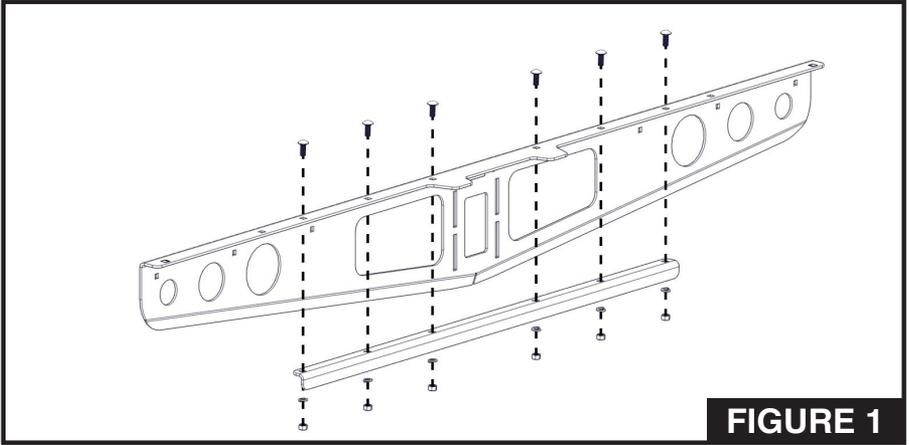

FIGURE 1
Insert (6) 1" carriage bolts through frame and gusset (orientate gusset as shown in Figure 1), secure with lock washers and nuts.